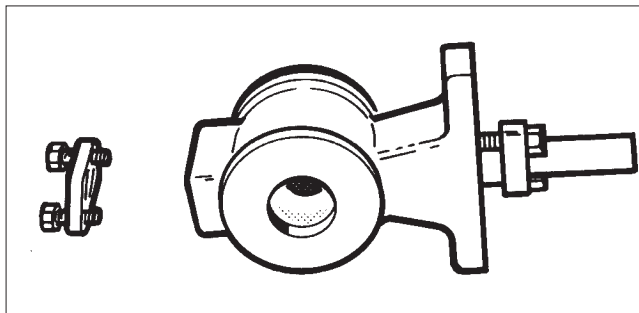

Fig. 11 Removing the blind flange
- In DN 25-40 valves (excluding the low-Cv versions), unfasten the flange (10) and push the segment into the back position (Fig. 11).